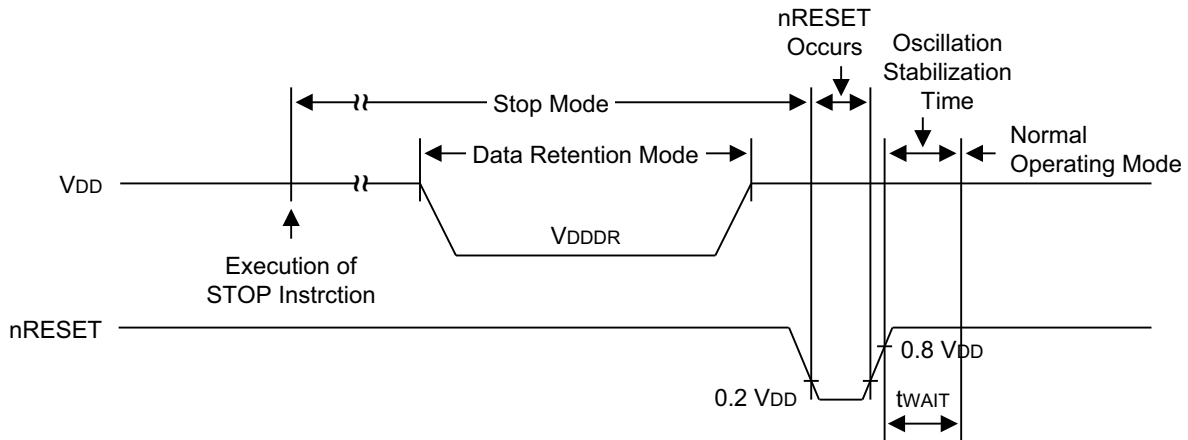

Figure 122. Stop Mode Release Timing Initiated by nRESET
► **Note:** In Figure 122, t_{WAIT} is the same as $4096 \times 16 \times 1 \div f_{XX}$.